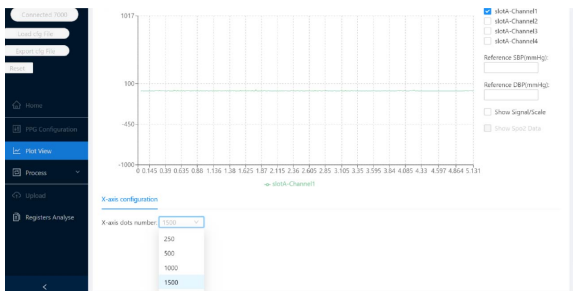

Figure 34. Waveform
2. The waveform appears in the **Plot View** page (see Figure 34).